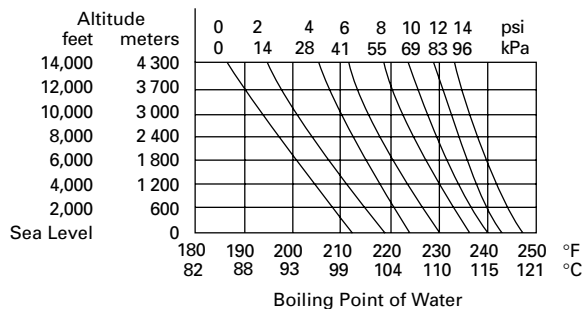

Figure 31. Cooling system pressure.
- For each 6.9 kPa (1.0 psi) of pressure, the boiling point is raised about 2° C (3° F) (see Figure 31). Elevations above 3048 m (10,000 ft) require higher rated pressure caps to avoid boiling.